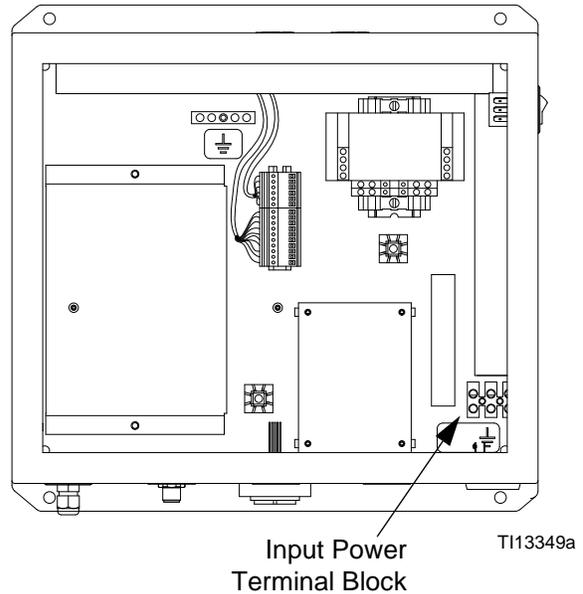

FIG. 17. Main Power Connection
2. See FIG. 17 and the **System Electrical Schematic** on page 44 for the L1, N, and ground wiring connections inside the EasyKey.